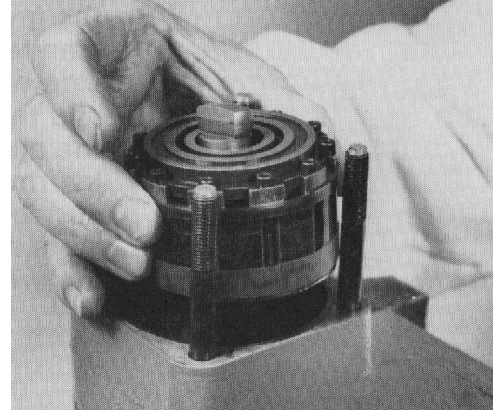

Figure 91
28. Put the metering package, drive plate side first, into the metering ring (Fig. 91). Revolve the input shaft or metering package until the hole in the drive plate engages the end of the input shaft and the drive plate is seated on the thrust bearing. When properly seated, the metering package will be below the surface of the metering ring.